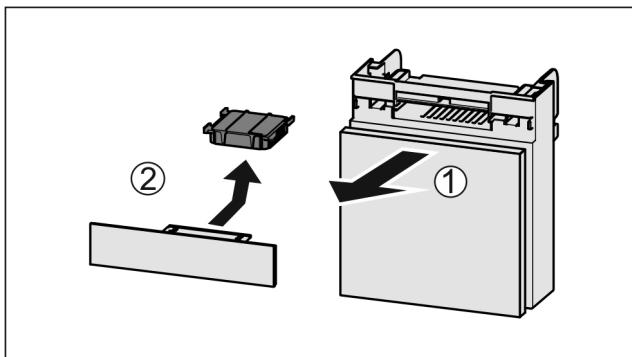

Fig. 103
- ▶ Pull out the compartment Fig. 103 (1).
- ▶ Remove the carbon filter Fig. 103 (2).